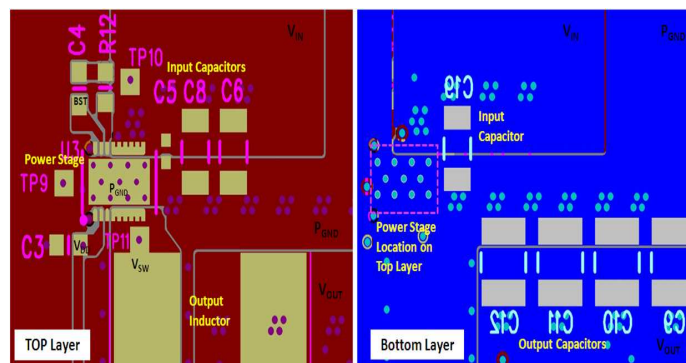

Figure 16. Recommended PCB Layout (Top Down View)
- The placement of the input capacitors relative to V_{IN} and P_{GND} pins of CSD97395Q4M device should have the highest priority during the component placement routine. It is critical to minimize these node lengths. As such, ceramic input capacitors need to be placed as close as possible to the V_{IN} and P_{GND} pins (see Figure 16). The example in Figure 16 uses 1×1 nF 0402 25 V and 3×10 μF 1206 25 V ceramic capacitors (TDK Part # C3216X5R1C106KT or equivalent). Notice there are ceramic capacitors on both sides of the board with an appropriate amount of vias interconnecting both layers. In terms of priority of placement next to the Power Stage C5, C8 and C6, C19 should follow in order.
- Use the smallest drill size allowed in your design. The example in Figure 16 uses vias with a 10 mil drill hole and a 16 mil capture pad.